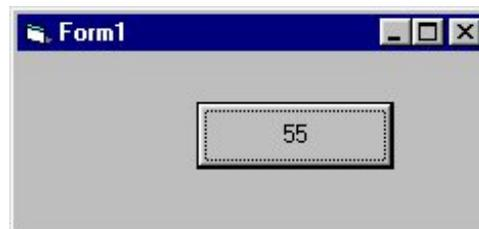

Figure 4-1-6. Shows the analog input value from the module.
- Run the program and click on the “**Command1**” button. The caption of the “**Command1**” button shows the analog input value. Refer to Figure 4-1-6.